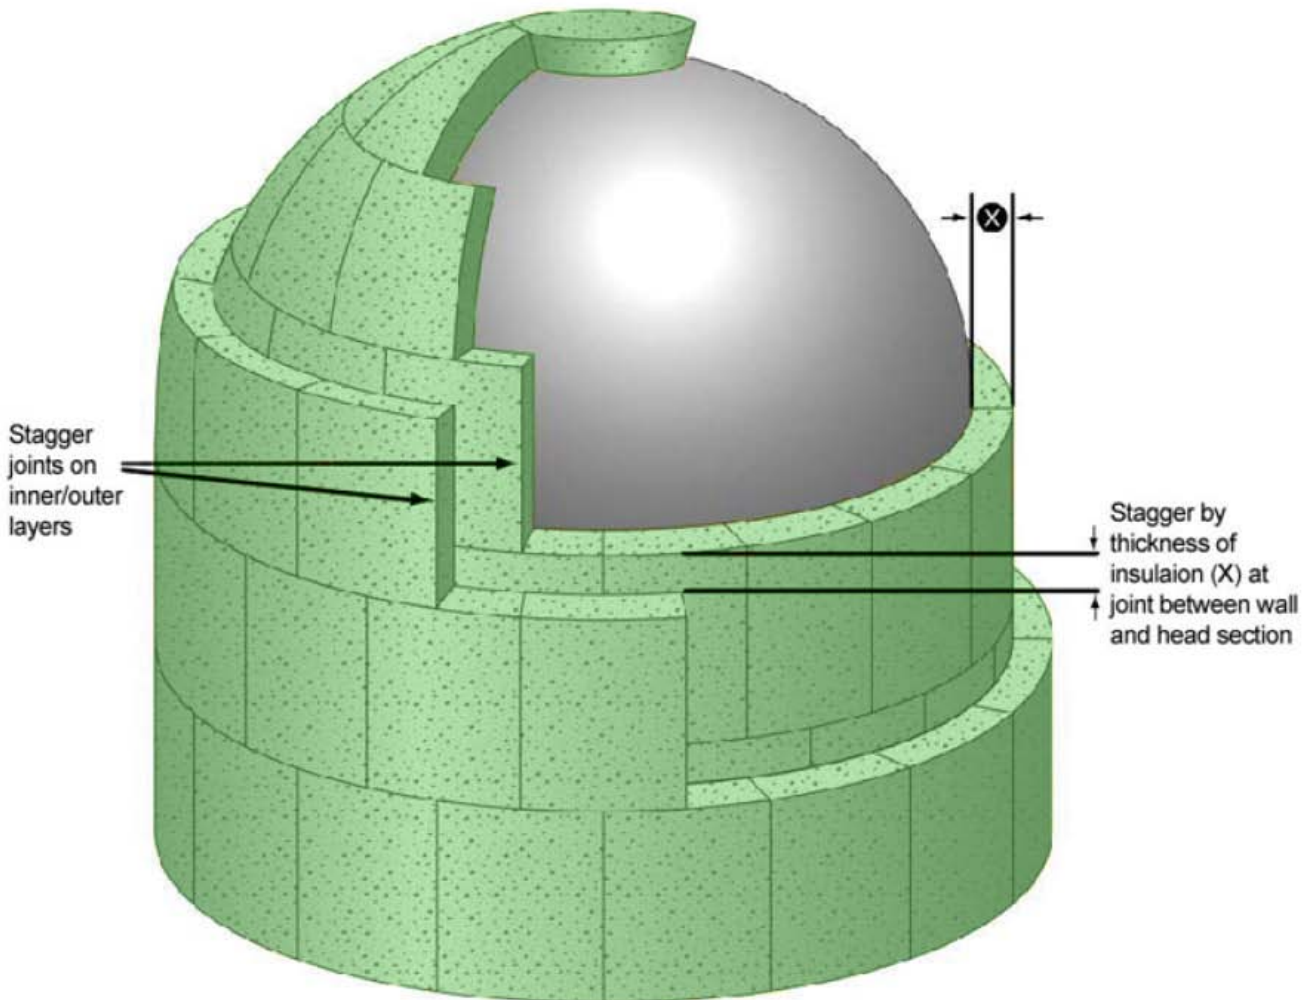

Figure 5
- 4.5.3 Prefabricated flat head sections shall be installed at the same thickness as the vessel walls unless thickness calculations indicate they should be installed thicker. Void area behind the flat head shall be filled with spray applied polyurethane foam. Curved segments shall be fabricated to fit the contour of the surface in equal size pieces to go around the vessel with a minimum number of through joints. Cutting in the field shall be minimized. All sections shall be tightly butted and free of voids and gaps. Refer to Figure 5 in Appendix B.